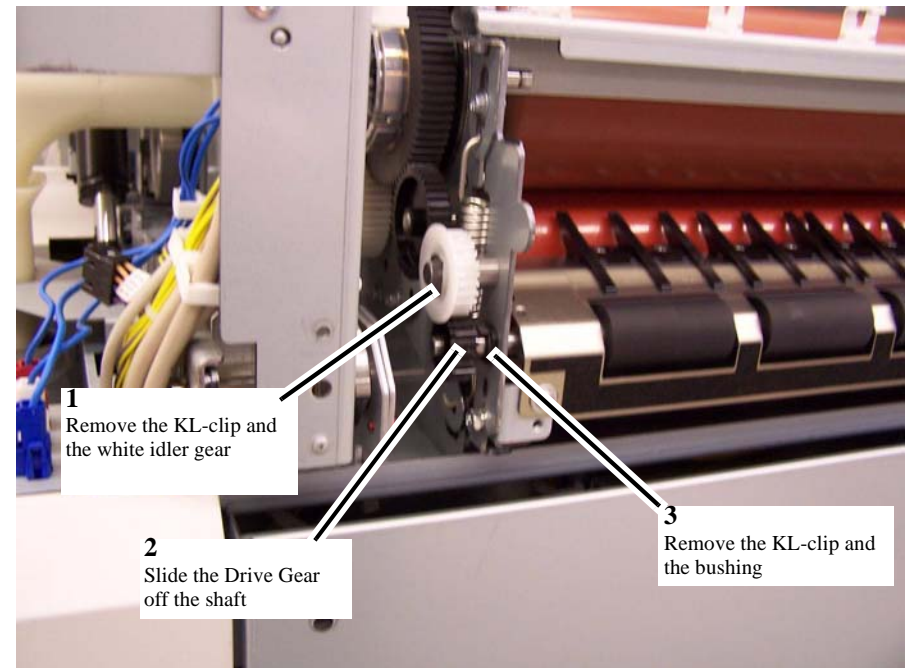

Figure 1 Exit Shaft removal (right side of Printer)
5. Remove the components at the right end of the Fuser Exit Shaft (Figure 1).